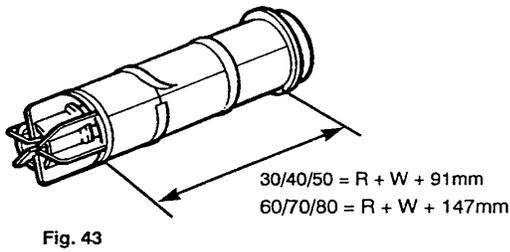

Fig. 43
8. Using the tape provided seal the joints of the three sections of the air duct, ensuring an overlap of at least 30mm (1 ³/₁₆ in) at each joint (Fig. 43).